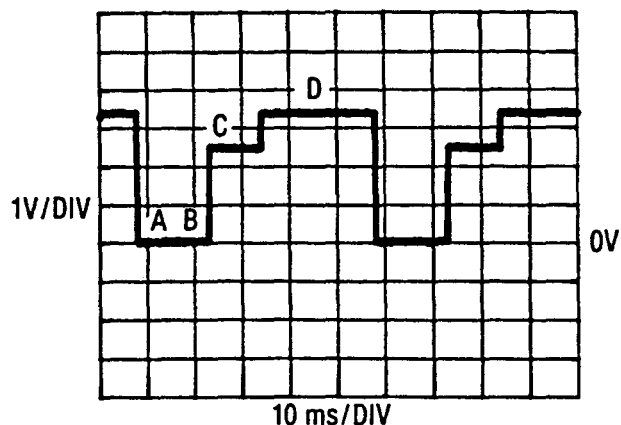

Figure 8-50. Analog to Digital Converter Input
1. Compare the waveform at A5TP11 with Figure 8-50.
2. The voltage levels at points A, B, C and D, on Figure 8-50, should be as indicated below:
If the voltage levels at points A, B, C and D are not as shown in Figure 8-50, go to step 4.